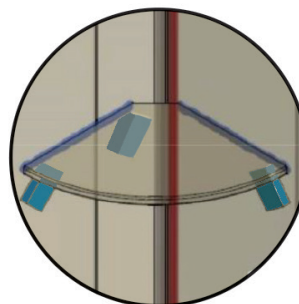

FIG 21.
- Carefully place shelf on stabiliser blocks and gently push into corner. Check for level (FIG 21).